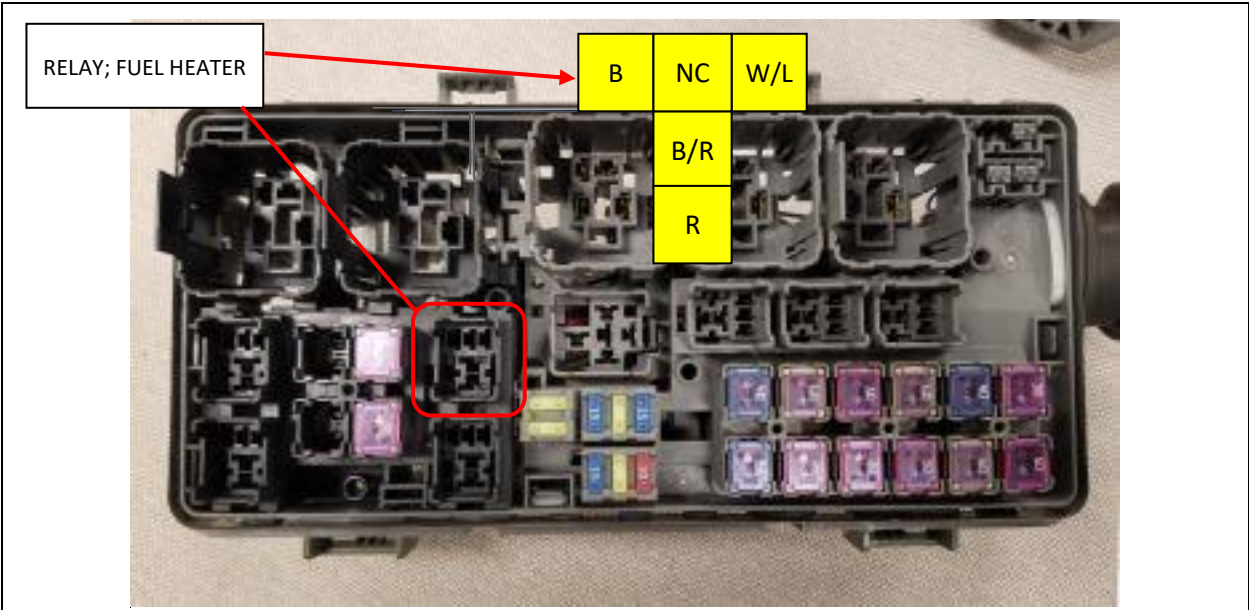

**Figure 6** 2011 – 2015 MY harness shown.
8. Feed the female spade terminals from the extension harness through rubber grommet and into fuse box. (See Figure 6.) On Model Years 2011 to 2015 route the extension harness's eight wires to the Engine Run Relay and Fuel Heater Relay locations as shown in Figures 6 and 7. Model years 2016 and 2017 have only four extension harness wires that route to the Fuel Heater Relay location as shown in Figure 8 and 9. Ensure that the proper size terminals are installed into the proper locations to ensure the correct fit and to avoid terminal and connector damage.